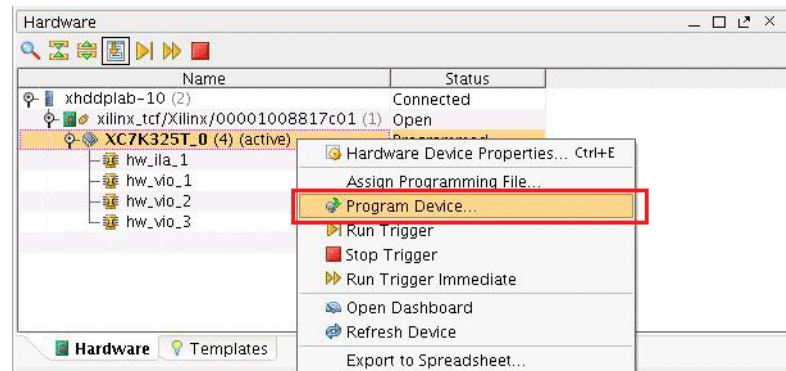

Figure 32: Program Device
7. Right-click the device in the Hardware list and select **Program Device...** (Figure 32). Ensure that the bitstream file path and name are correct and click **OK**.